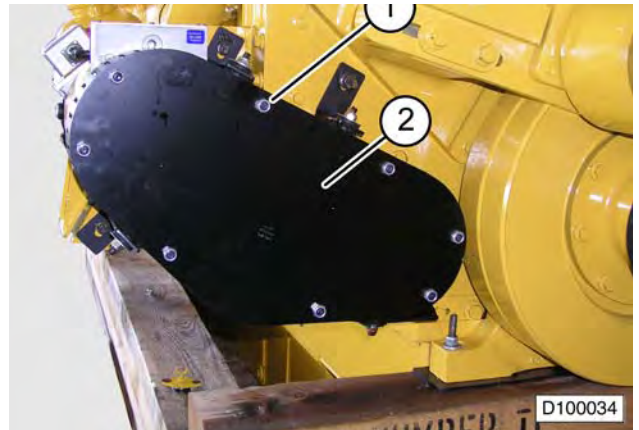

FIGURE 10-21. BELT GUARD ASSEMBLY
- Remove eight lock nuts (1, Figure 10-21) from the front cover of the belt guard assembly.
- Remove cover (2).